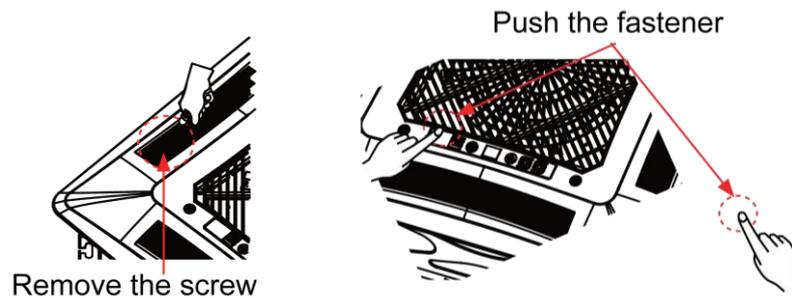

Fig 4.4.4
- (1) Detach the panel's Corner Cap, there is a mark "piping side" on one of the 4 corners, adjust the panel direction so as to keep the mark and fittings on the same corner, as shown in fig 4.4.4